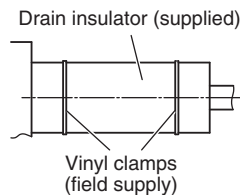

Fig. 3-9
- (2) After connecting the drain pipe securely, wrap the supplied packing and drain pipe insulator around the pipe, then secure it with the vinyl clamps. (Fig. 3-9)